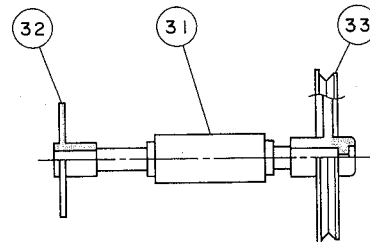

Figure 16
**2. Worm gear (31) Assy**
As described in Fig. 16 pressing insert the Shifter (32) and pulley to the long and short bars of Worm Gear (31) respectively. When the Shifter (32) is assembled, make sure that the left end of the bar is on the same level as the face of the shorter boss of shifter. When the Pulley (33) is assembled, press the pulley as long as it goes.